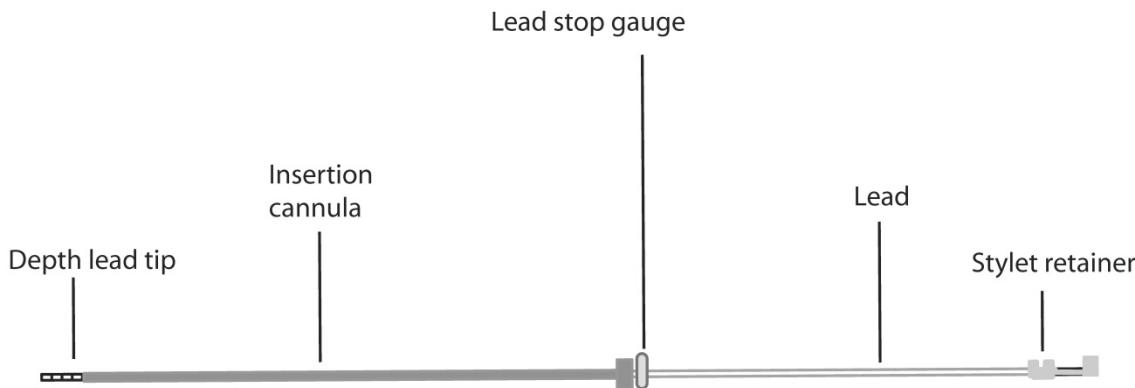

Figure 8: Position the stop gauge directly above the insertion cannula in order to gauge the full insertion distance of the depth lead.
2. Before placing the insertion cannula onto the frame, insert the depth lead into the insertion cannula and place the stop gauge (provided) on the lead directly above the cannula, such that the lead tip will reach the implant target after the lead is fully advanced down the cannula. The stop gauge should meet the top of the cannula once the lead is advanced the desired distance (Figure 8).